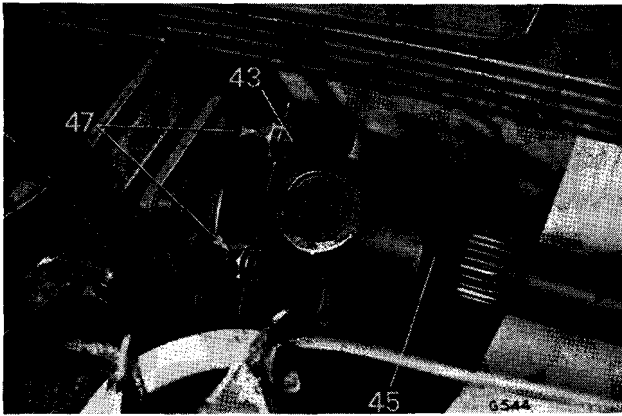

Fig. 45. Axle shaft universal joint connections
3. Jack up the vertical link (10), as shown on Fig. 43, to relieve the dampers of load. Remove nuts (47), bolts (43), Fig. 45, and disconnect the axle shaft couplings.